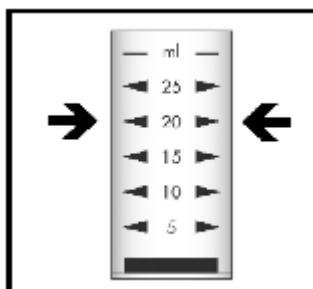

Figure 1
1. Fill the sample cup to the 20 mL mark with the sample to be tested. (Fig. 1)